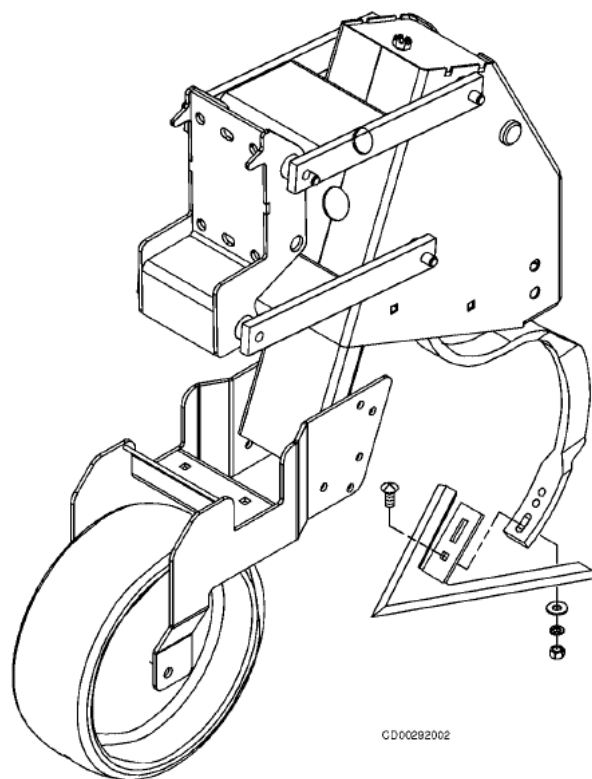

Figure 21 Adjusting Sweep Pitch
1. Adjust pitch by selecting a different hole on the tine (straight edge tine). Use pitch adjusting screw. See Figure 21.